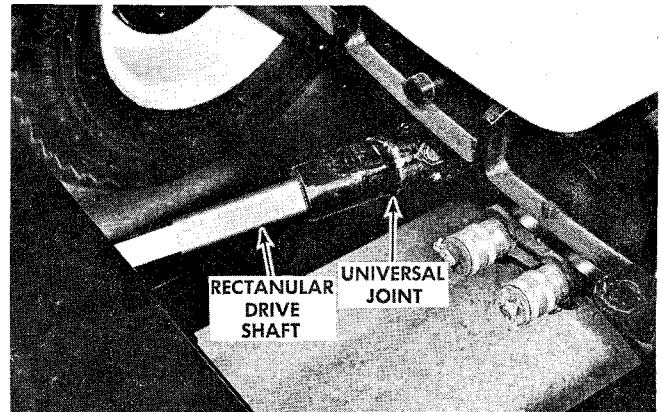

FIGURE 7
6. Apply a coating of grease over rectangular drive shaft of Snow Thrower and install universal joint onto shaft. Grease front P.T.O. shaft. Depress lock collar on universal joint and slide onto P.T.O. shaft until collar locks into locking groove. See figure 7.